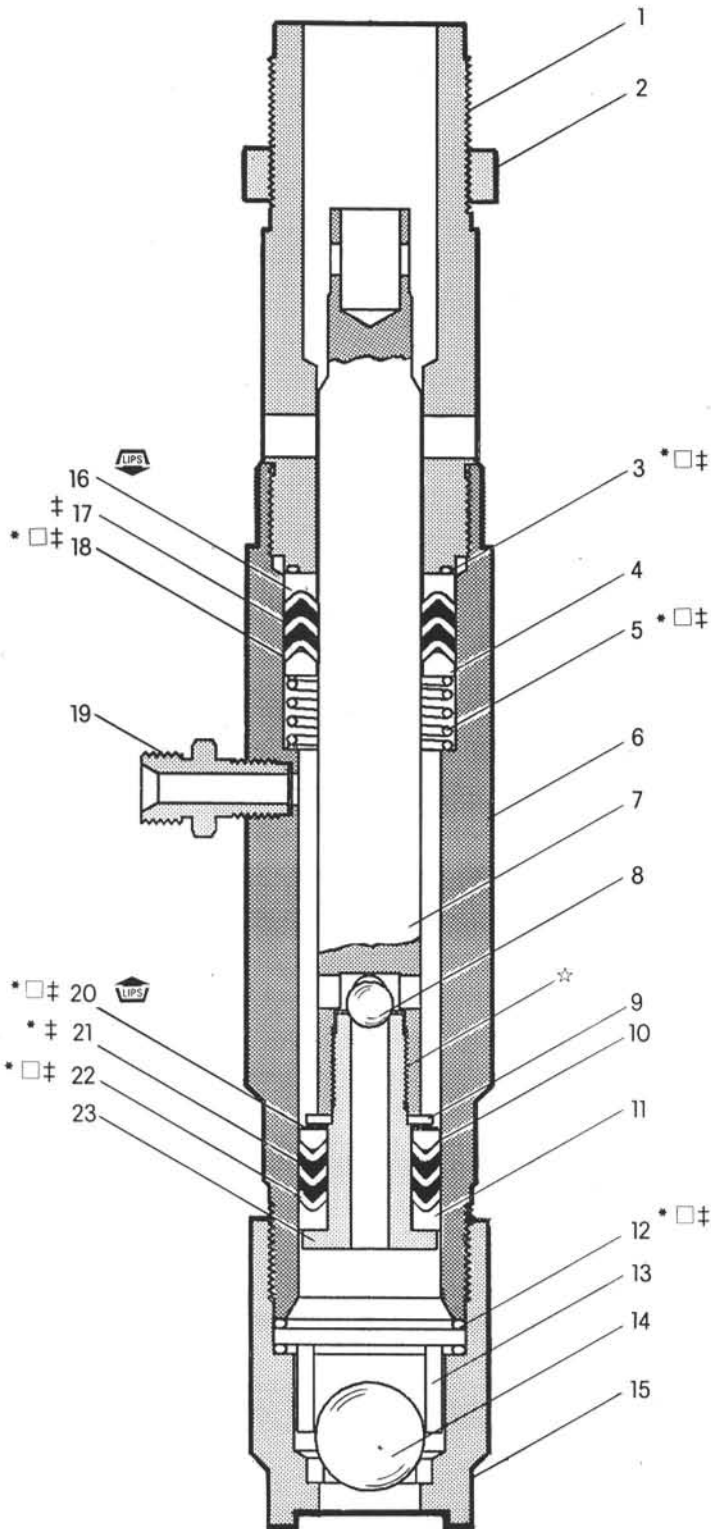

FIGURE 3
- 637154-X Service Kit for Lower Pump End Repair (See Fig. 3)
- \_\_Place (5) Spring, (4) Male Washer, (18) "V" Packing, (17) "V" Packing, and (16) Female Packing Washer in (6) Tube.
- \_\_Screw (1) Tube with (3) "O" Ring into (6) Tube. Screw (2) Nut onto (1) Tube.
- \_\_Insert (8) Ball into (7) Plunger Rod.
- \_\_Place (11) Female Washer, (22) "V" Packing, (21) "V" Packing, (10) Male Packing Washer, (20) Washer, and (9) Washer onto (23) Valve Seat.
**CAUTION:** When assembling packings and washers, be sure they are assembled correctly as shown in Figure 3.
- \_\_Grease (7) Plunger Rod and carefully slide (7) Plunger Rod into (6) Tube.
- \_\_Assemble (14) Ball, (13) Ball Stop, and two (12) Gaskets into (15) Foot Valve.
- \_\_Screw (15) Foot Valve into (6) Tube.